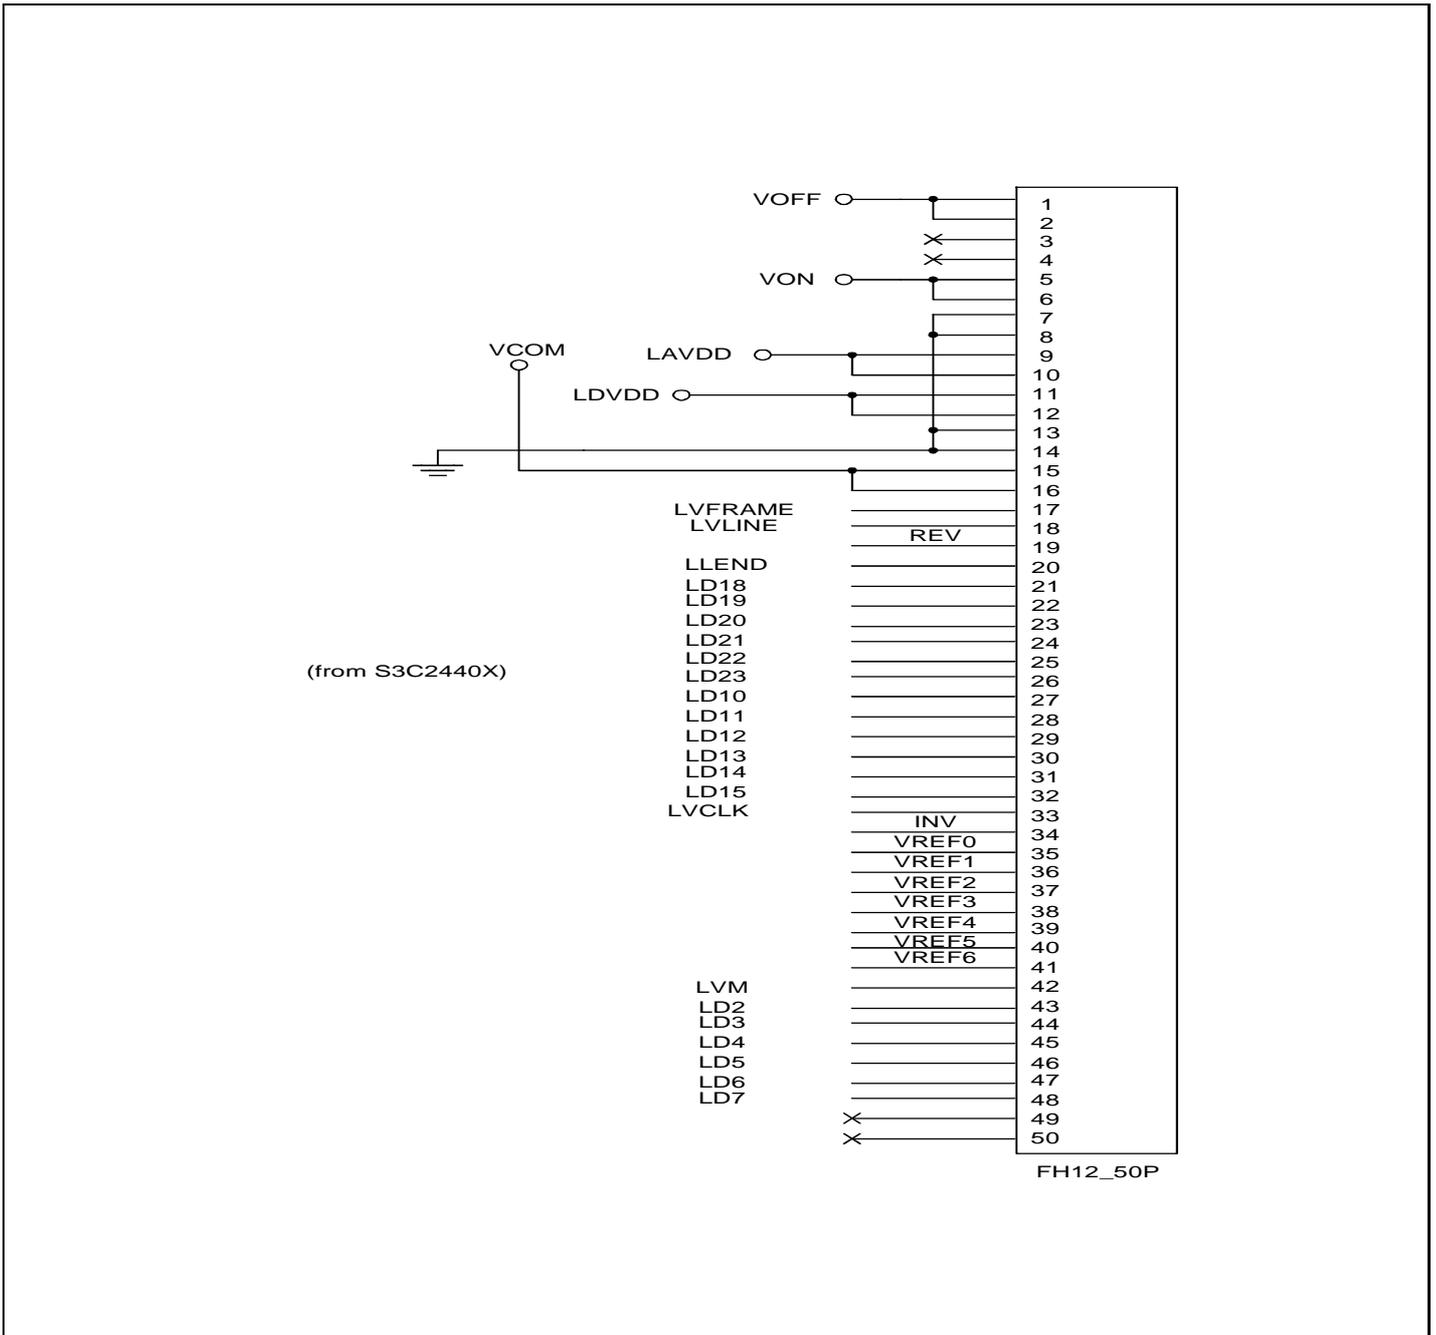

Figure 4-17. LTS350Q1-PE1 Connection with S3C2440X (Samsung 3.5" Transflective TFT LCD)
- LTS350Q1-PE1 (256K color TFT LCD) from SAMSUNG ELECTRONICS CO., LTD. (refer to Figure 4-17)